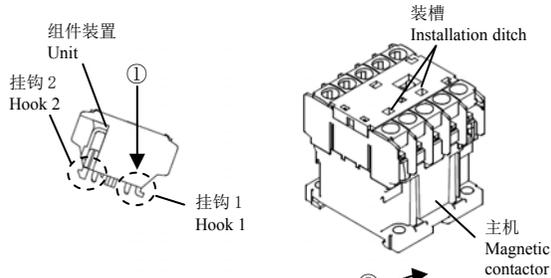
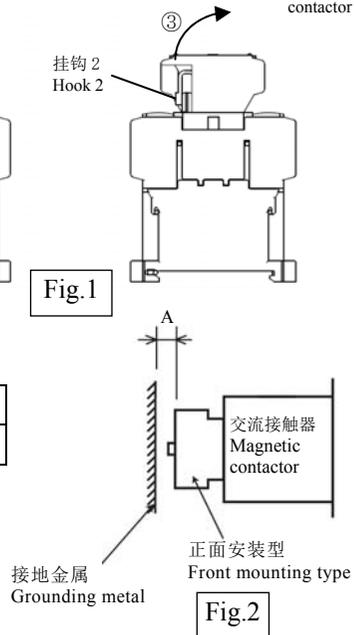

Fig. 1
Fig. 2
3. 安装及拆卸方法 (Fig. 1)
4. 安装预留位置 (Fig. 2)
3. Mounting and removal (Fig. 1)
- The installation tips a unit diagonally from the ① direction and pushes it to the main body, and please confirm that hook 1 of the unit hangs it on the installation ditch of the main body and moves it after a figure to the ② direction, and hook 2 is attached to the main body well.
- Please take it off after the disassembly moves to a course of ③ in the state that pushed hook 2 of the unit with a finger, and canceling a lock state.
4. Mounting space (Fig. 2)